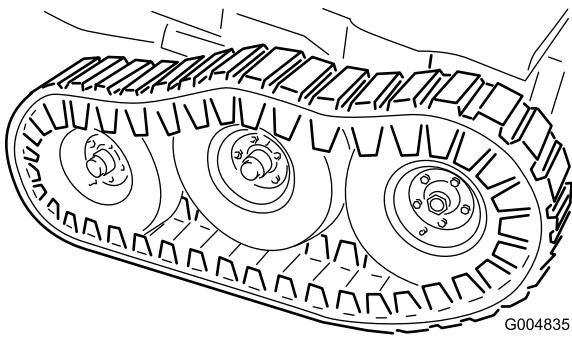

Figure 56
22. Lower the floor jack until the front wheels support the frame. Install the flat washers (1/2 inch) and locknuts on the bogie pivot stud (Figure 56) and torque to 102 N·m (75 ft-lb).